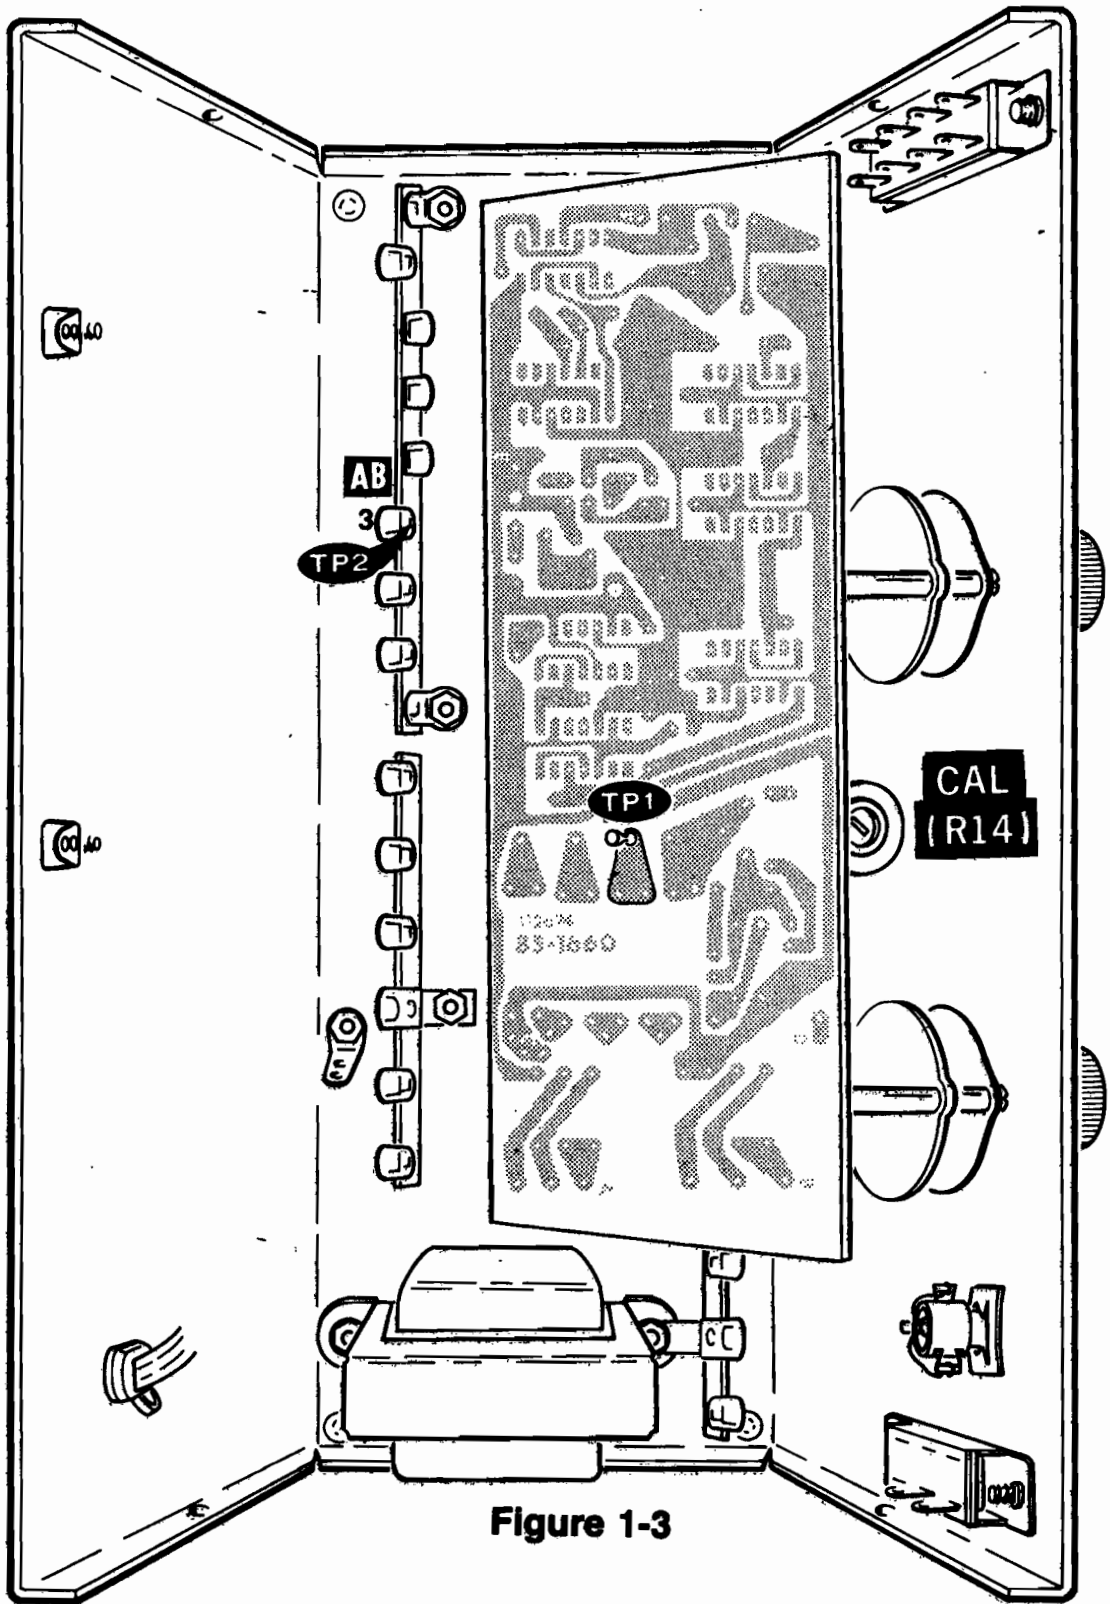

Figure 1-3
- () Refer to Figure 1-3 in the Illustration Booklet and adjust the CAL control R14 for exactly 1.000 volts DC on the DVM.
- () Measure the voltage at TP2 (on terminal strip AB lug 3). See Figure 1-3 in the Illustration Booklet. Notice and remember the exact meter indication.